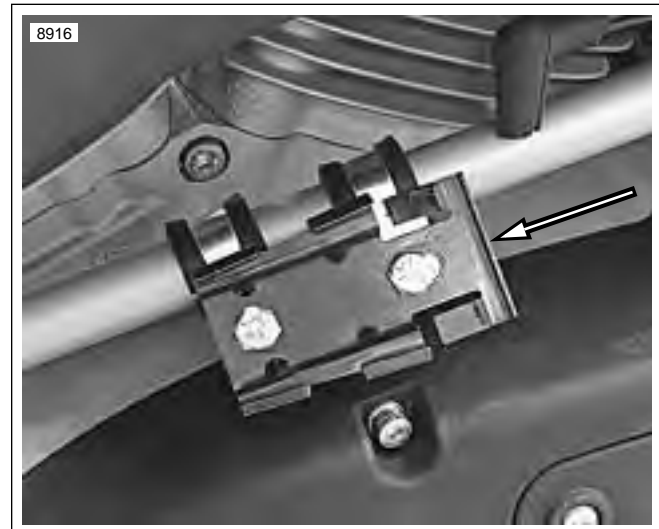

Figure 4-112. Canister Mounting Bracket
1. See Figure 4-112. Slide canister into position on canister mounting plate and push towards front of vehicle.